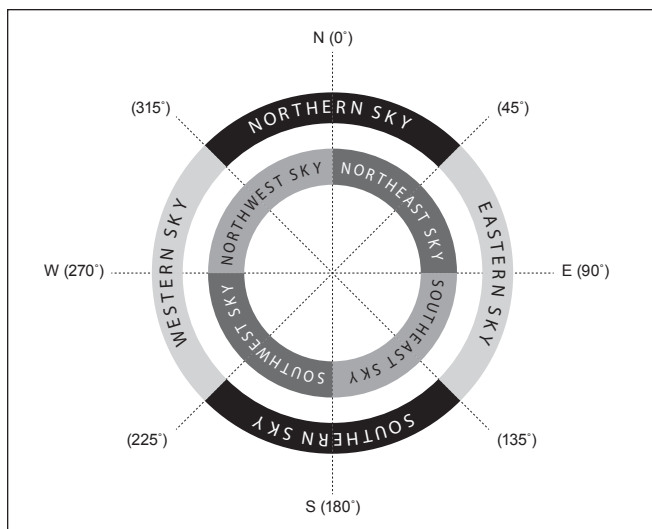

Figure 2. Directional regions of the sky used in the "Brightest Star" alignment method.
2. The hand controller will prompt you to "Select Region." Referring to **Figure 2**, choose the region that corresponds with where you see the brightest star in the sky. It may be helpful to have a compass for reference during this process. There are eight overlapping regions to choose from, each covers a 90-degree span in azimuth. The direction you choose will only affect your alignment star selection; you will still be able to choose objects to view across the entire sky once the alignment is complete.